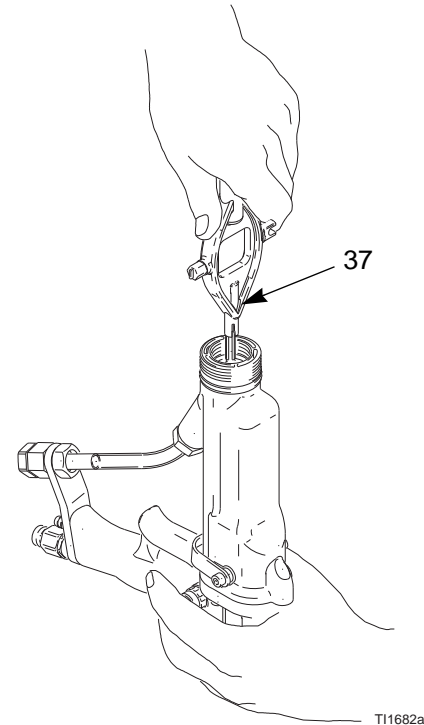

Fig. 26. Electrode Replacement
3. Unscrew the electrode (29) with the multi-tool (37). Hold the packing rod end (26h) to prevent it from turning, FIG. 26..